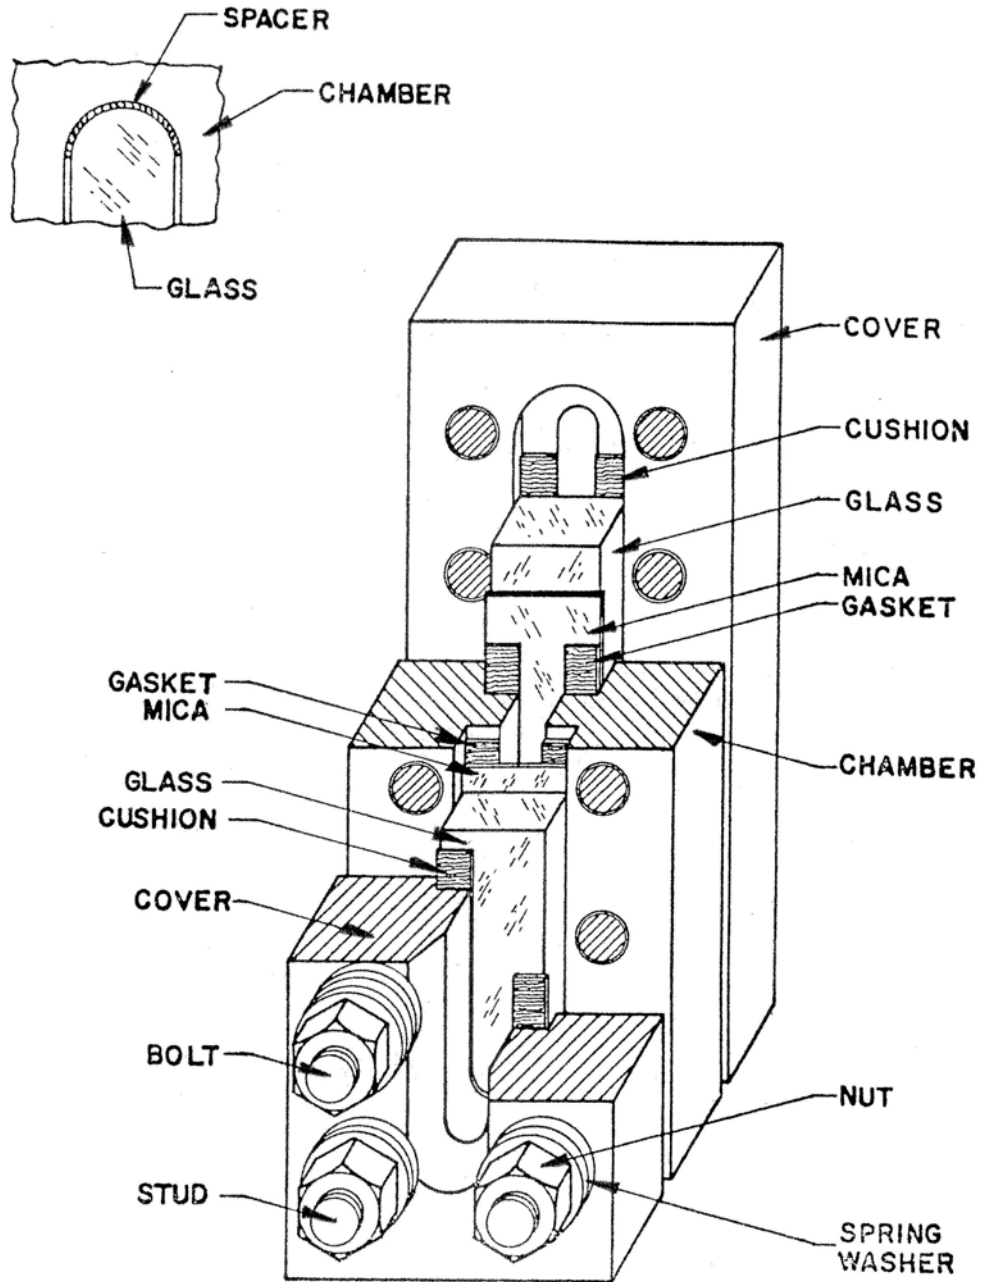

FIGURE 3
(See Figure 3). A piece of 1/64 INCH gasket material, 1-1/2 INCH long by 3/8 INCH wide should be placed as a spacer at each end of the glass to prevent contact with the chamber and to assist in centralizing the glass in its seat. Use new parts for glass insert, mica protector, gasket (1/32 INCH thick), cushion for cover plate (1/32 INCH thick), washer set and old cover plate and nuts. Four (4) spring washers (P/N: V-15697-J1) are to be stacked under each nut on the bolts as shown in Figure 2B and two (2) spring washers are to be stacked under each nut on the studs as shown in Figure 2A.